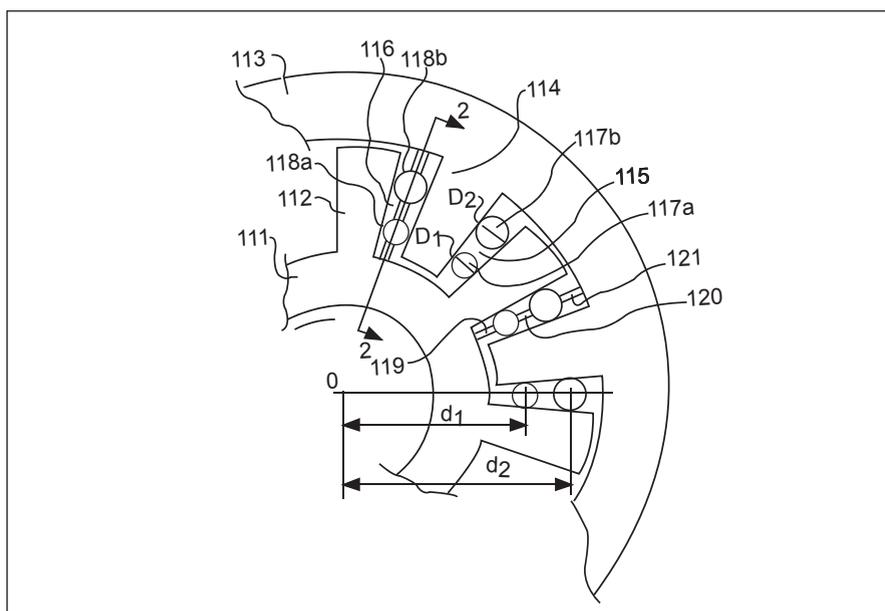

Fig. 14—Torsionally flexible coupling with flexible element composed of radially compressed rubber cylinders.
Vehicles usually have variable speed transmissions. The same is often true for production machines. In order to keep the coupling size small, it is usually installed close to the driving motor/engine, where it rotates with a relatively high speed and transmits a relatively small torque. At the lower speeds of an output member, the installed power is not fully utilized and the absolute values of torque (and of amplitudes of torsional vibrations) transmitted by the high-speed shaft are small. In vehicles, the installed power is not fully utilized most of the time. Thus, an important advantage of couplings with nonlinear load-deflection characteristics is feasibility of making a reasonably small coupling with low torsional stiffness and high rated torque. An overwhelming majority of power transmission systems are loaded with less than 0.5 Tr for 80–90% of the total “up” time. A nonlinear coupling with a hardening load-deflection characteristic such as one in Figure 14 provides low torsional stiffness for most of the time, but since its stiffness at the rated torque is much higher, its size can be relatively small.
A coupling with a hardening nonlinear characteristic may have high torsional compliance for the most frequently used sub-rated (fractional) loading in a relatively small coupling. Accordingly, the misalignment-compensating properties of a highly nonlinear coupling would be superior at fractional loads. The coupling in Figure 14 (Ref. 5) employs radially compressed rubber cylinders for torque transmission in one direction (117) and